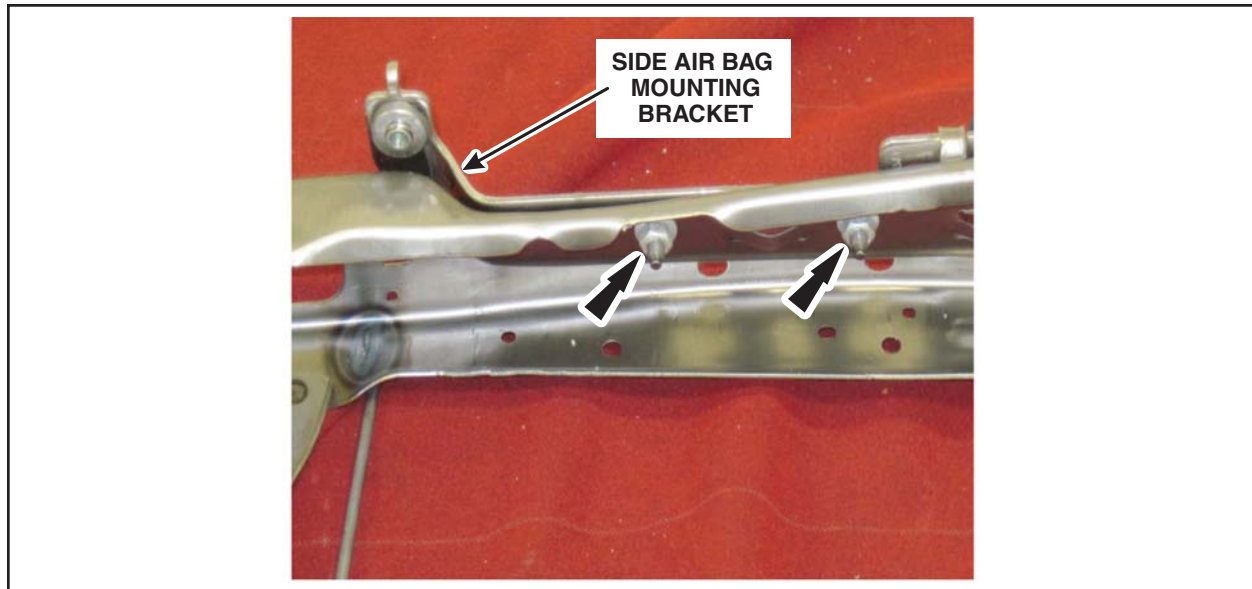

FIGURE 17
27. Remove the two side air bag module mounting bracket nuts and bracket. Discard the backrest frame. See Figure 17.
28. Install the side air bag module mounting bracket to the **new** backrest frame using the two nuts. See Figure 17.